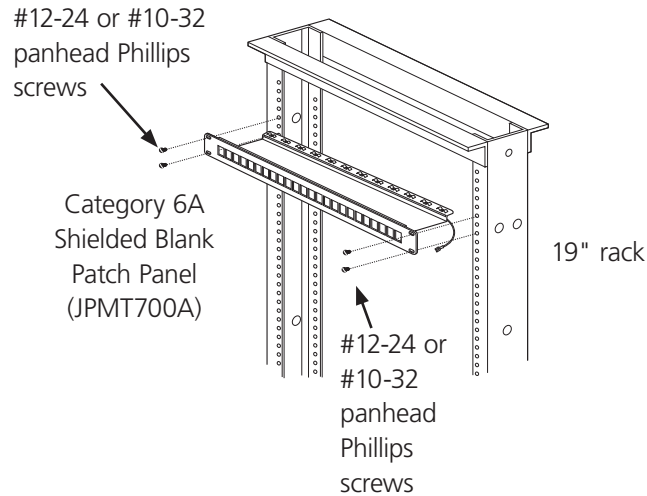

Figure 1. Panel installation.
1. Mount the panels in a standard 19" relay rack using the supplied hardware. See Figure 1.